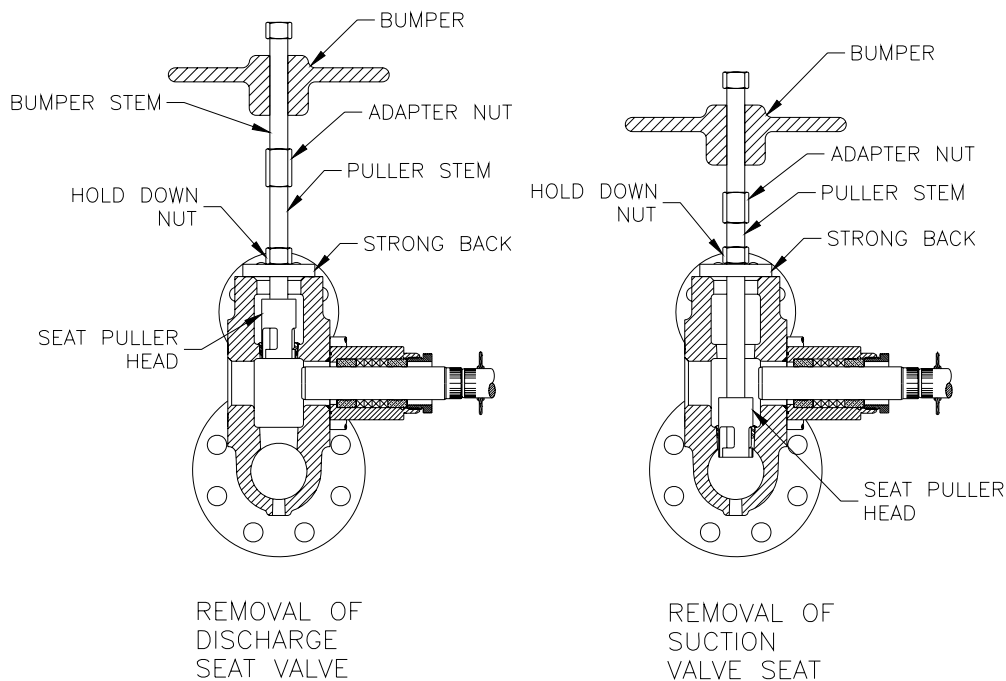

Figure 9
- Use the special valve puller and remove the valve seat. See Figure 9.